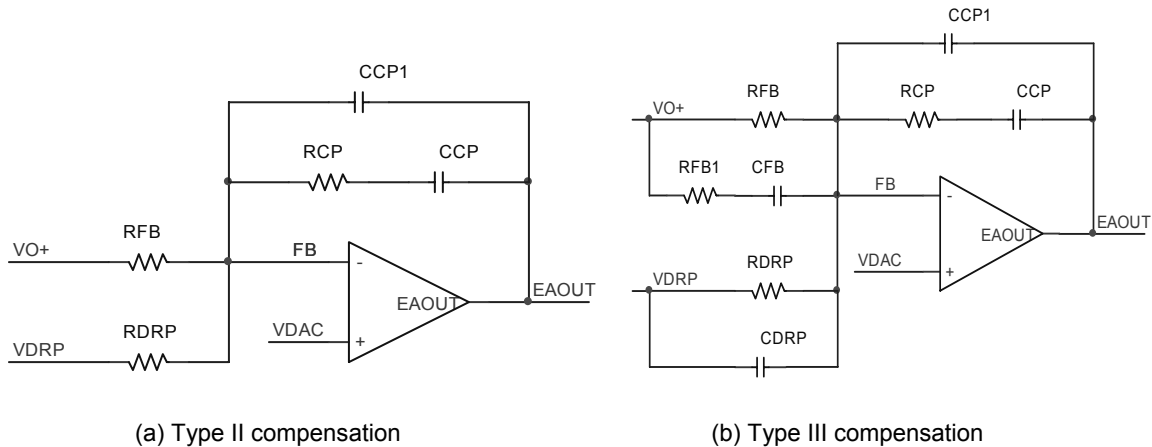

Figure 12. Voltage loop compensation network
Resistors RFB and RDRP are chosen according to Equations (15) and (16), and the selection of compensation types depends on the output capacitors used in the converter. For the applications using Electrolytic, Polymer or AL-Polymer capacitors and running at lower frequency, type II compensation shown in Figure 12(a) is usually enough. While for the applications using only ceramic capacitors and running at higher frequency, type III compensation shown in Figure 12(b) is preferred.
For applications where AVP is not required, the compensation is the same as for the regular voltage mode control. For converter using Polymer, AL-Polymer, and ceramic capacitors, which have much higher ESR zero frequency, type III compensation is required as shown in Figure 12(b) with RDRP and CDRP removed.